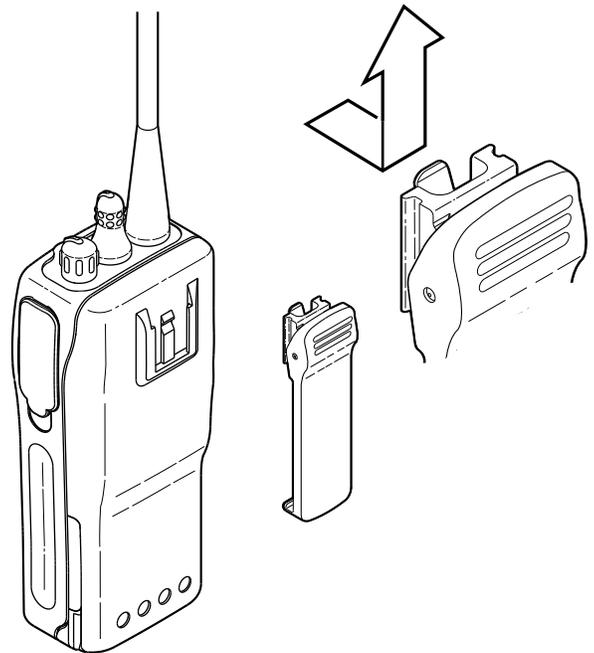

Figure 3-3.
1. Push in on tab of belt clip with small flat-bladed screwdriver, and at the same time slide belt clip toward top of radio (Figure 3-3).